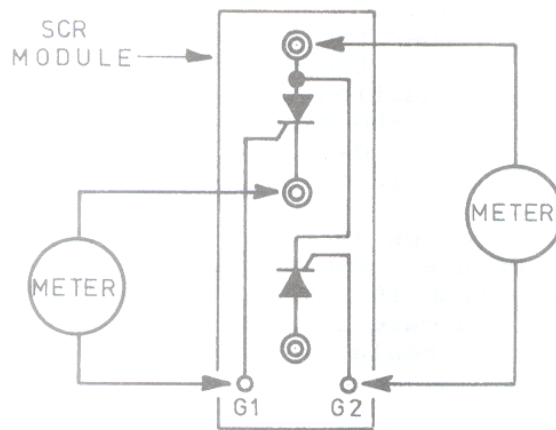

FIGURE 12
- 5) If neither light burns in Steps (3) and (4), then none of the SCR modules are shorted. Skip Step (6) and go to Step (7).
- 6) If one or both bulbs burned in Steps (3) or (4), inspect module wiring for shorts. Look for nuts, washers, or wire clippings wedged between bus bars. Be sure the wire lugs on the two small white wires are not shorting to an adjacent terminal. If no shorts are found, then one or more SCR modules are faulty. Remove SCR modules and bench test them per Section 13.2.3 to locate faulty modules. Replace faulty modules with good modules and reinstall in PRD-8. (Remove and replace modules per instructions in Section 15.6). Repeat steps (3) and (4) preceding. When no light bulbs burn, turn power off and go to Step 7.
- 11) Assure that ac power is off and perform the resistance check outlines in Section 15.6.2. If any of the resistors are found to be open it is likely that the related SCR module has failed and has an open (internal) cathode termination. If faulty resistors are found, use the "Pulse Generator Component Table" on Drawing A2101-000-ES to determine which SCR module the failed resistor is connected to. Replace the SCR module with a good module per Section 15.6. The test of Figure 12 can be used to verify the suspected open-cathode termination of the original SCR module. Repair the failed resistor per Section 15.6.2.
Also test all modules as shown in Figure 12 to detect open cathode leads in the module. Use a multimeter set to measure ohms. Readings will vary from 10 ohms to 150 ohms. Readings much higher than 200 ohms indicate an open cathode lead in the module; such modules should be replaced. Also check resistors on board E1511 per Section 15.6.2.